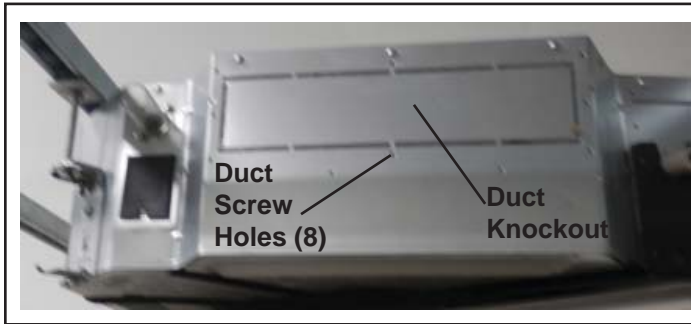

Figure 18. Typical Duct Knockout
3. Knockout the secondary supply duct opening. See figure 18.
5. Connect the secondary supply duct to the cassette body using the eight screw holes shown in figure 18.